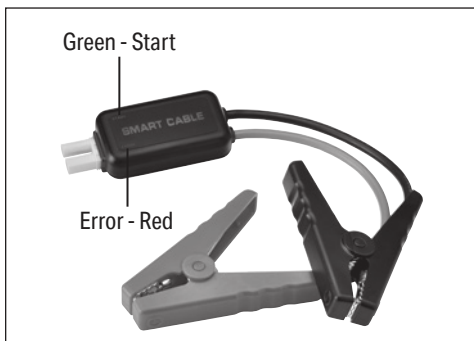

Fig. 3
7.1 Jump Starting the Vehicle - Fig. 2 - Fig. 3.